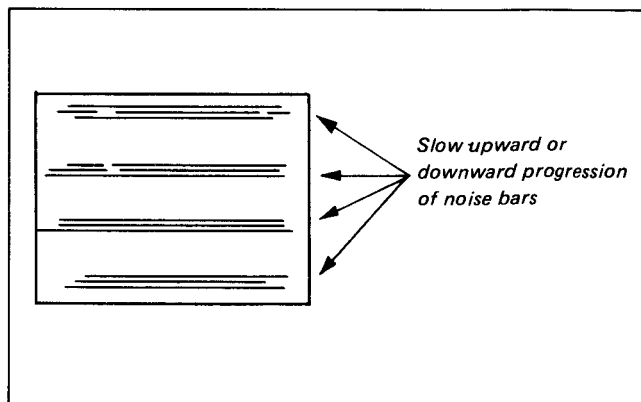

Fig. 5-10. PICTURE SEARCH, capstan DC bias adjustment
- i) Set up the picture search (forward) mode and adjust with RV308 so that the progression of noise bars becomes as slow as possible. (See Fig. 5-10.)